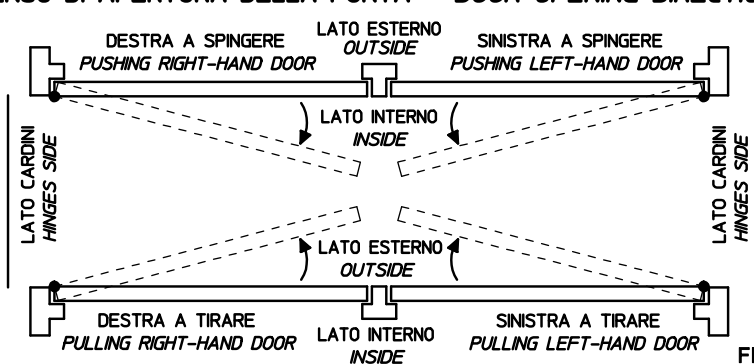

FIG. 1
1. IDENTIFICARE IL SENSO DI APERTURA DELLA PORTA UTILIZZANDO LO SCHEMA DI FIG.1 E, SERVENDOSI DELLA DIMA DI MONTAGGIO, MARCARE LE POSIZIONI DELLE VITI DI FISSAGGIO SULLA PORTA E SULLO STIPITE E PREPARARE I FORI.
1. CHECK THE DOOR OPENING DIRECTION USING THE FIG.1 SCHEME AND USE THE INSTALLATION TEMPLATE TO MARK THE POSITION FOR THE FIXING SCREWS ON THE DOOR AND ON THE FRAME AND PREPARE THE HOLES.